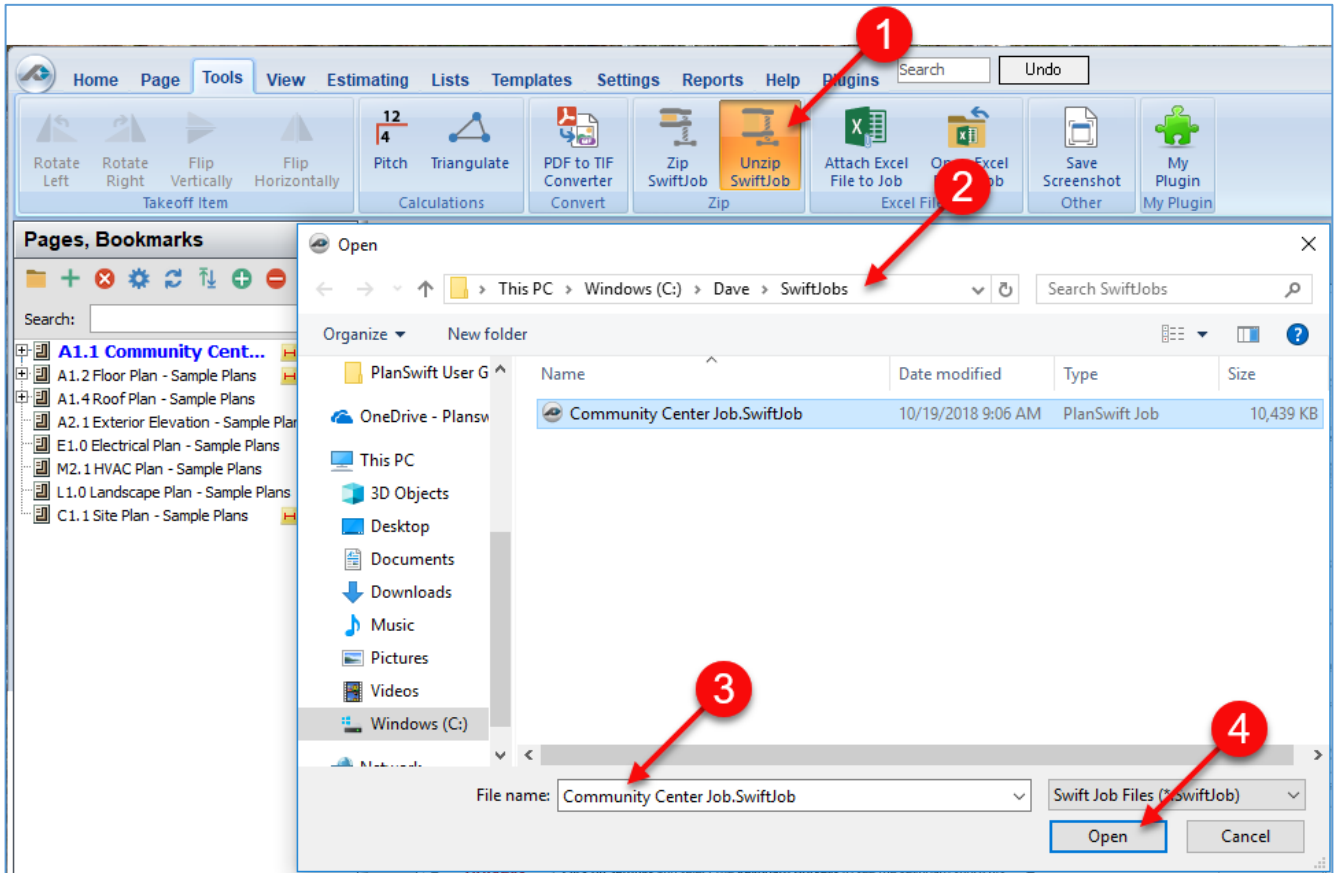

Figure 1-H
5. This opens the **Import Swift Job** window (Fig. 1-l).